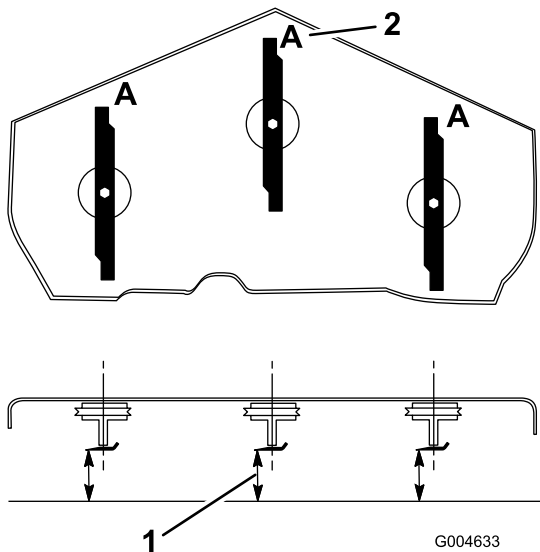

Figure 70
3. Rotate the blades until the ends face forward and backward (Figure 70).
Note: Measure from a level surface to the cutting edge, position **A**, of the blades (Figure 70). Note this dimension.